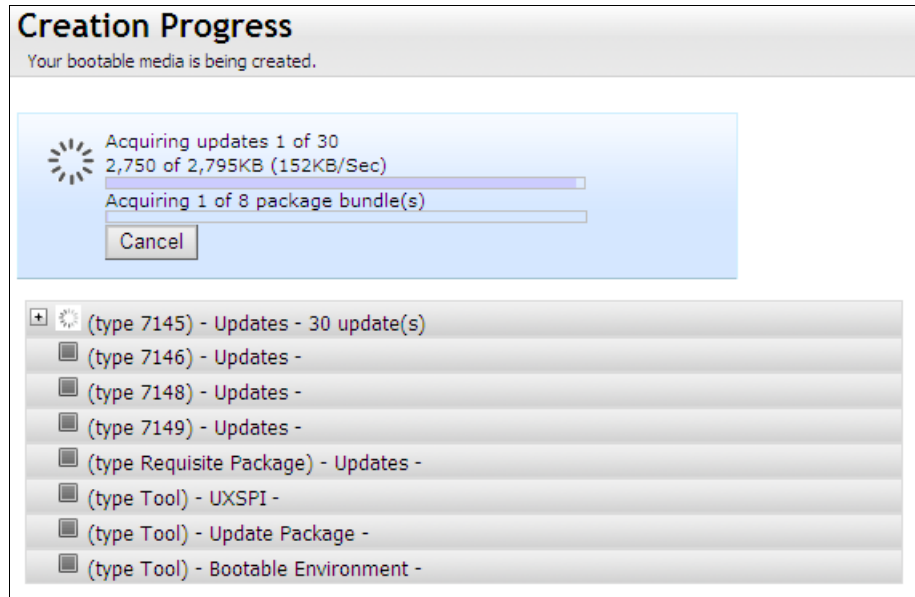

Figure 9-82 Downloading the files
14. BoMC acquires the files. In the progress bar, you can see the progress of the updates, as shown in Figure 9-82 on page 520.